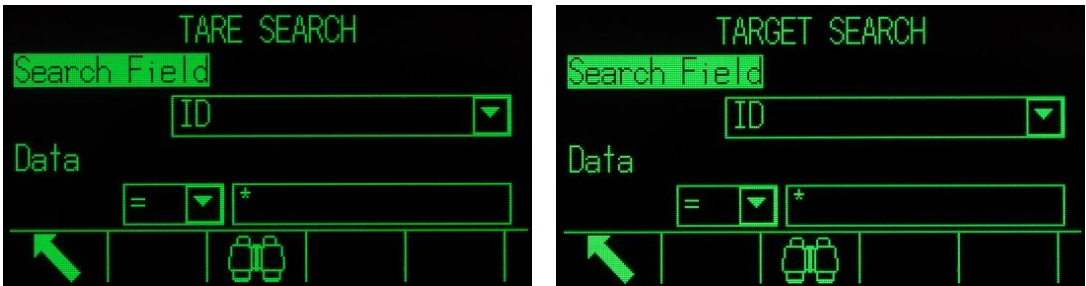

Figure B-3: Tare Table and Target Table Search Screen
- 1. Press the TARE TABLE softkey  or TARGET TABLE softkey  to display the search screen as shown in Figure B-3.
2. Press the VIEW TABLE softkey . The Search screen (Figure B-3) displays.